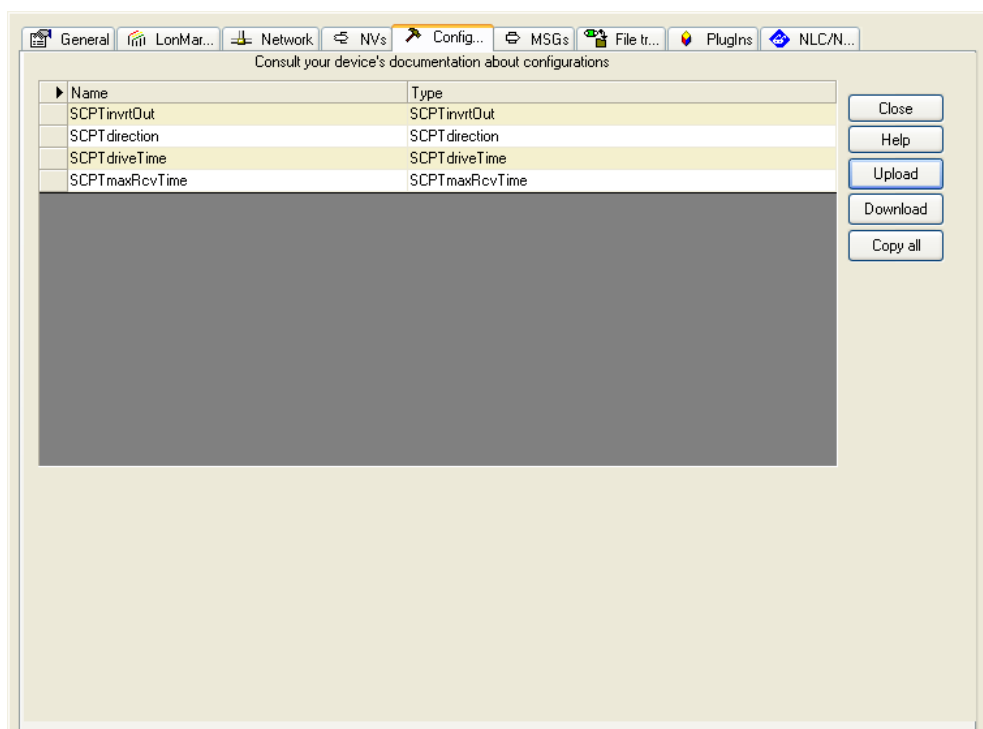

Figure 94: Configuration Tab for Configuration Properties in NL220.
2. Press the **Upload** button on the Configuration tab of the device properties (see Figure 94).